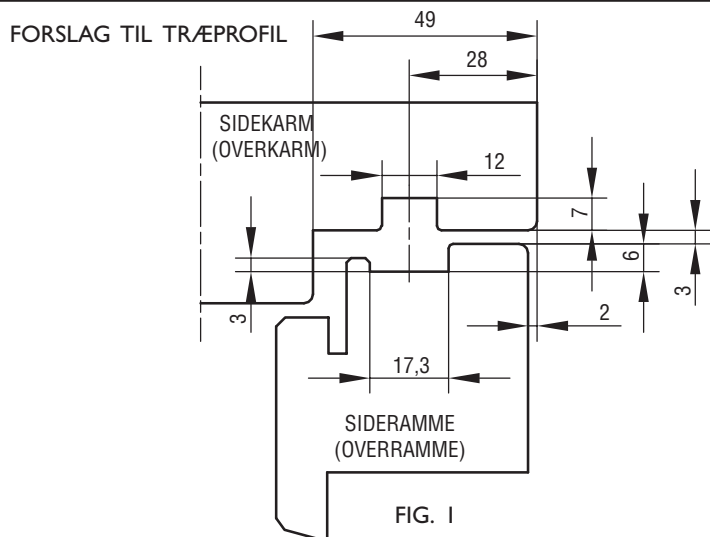

FIG. 1
- 21175: SIDE- OG ØVERSTE KARM OG RAMME FORSYNES MED GENNEMGÅENDE NOTER, SE FIG. 1.
21179 SIDESTYKKE I KARM OG RAMME FORSYNES MED GENNEMGÅENDE & 82: NOTER, SE FIG. 1.